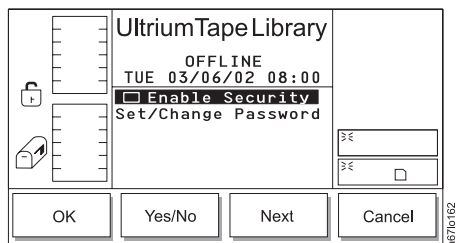

Figure 4-120. Secure Dialog
3. Press the button below the **Secure** softkey. The Secure Dialog displays (see Figure 4-120).